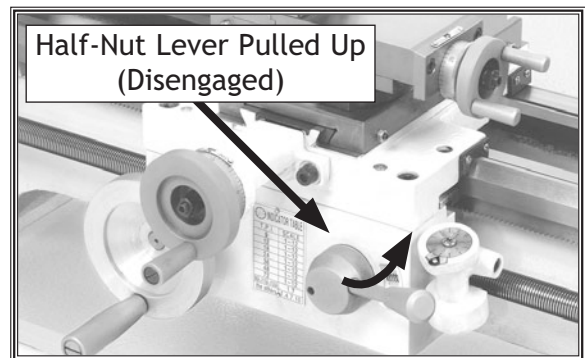

Figure 3. Half nut lever in the disengaged position.
3. Change the belt position so the spindle will rotate at 150 RPM, and disengage the half nut with the lever shown in **Figure 3**. Refer to **Determining Correct Spindle RPM** on **Page 27** for clarification.